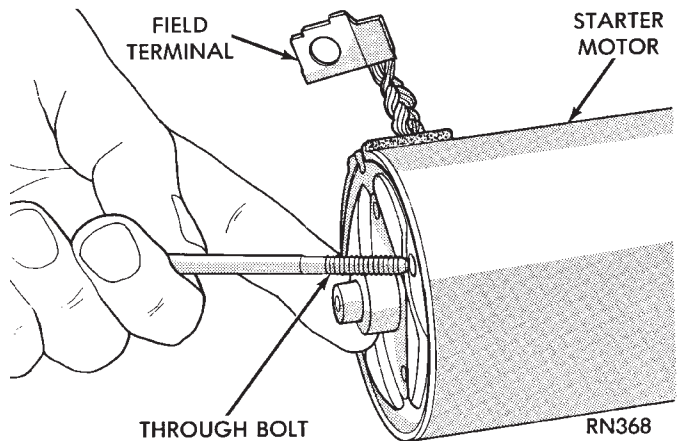

Fig. 19 Through-Bolt
(2) Remove the two through-bolts securing the starter drive end housing to the motor housing (Fig. 19) and separate housings.